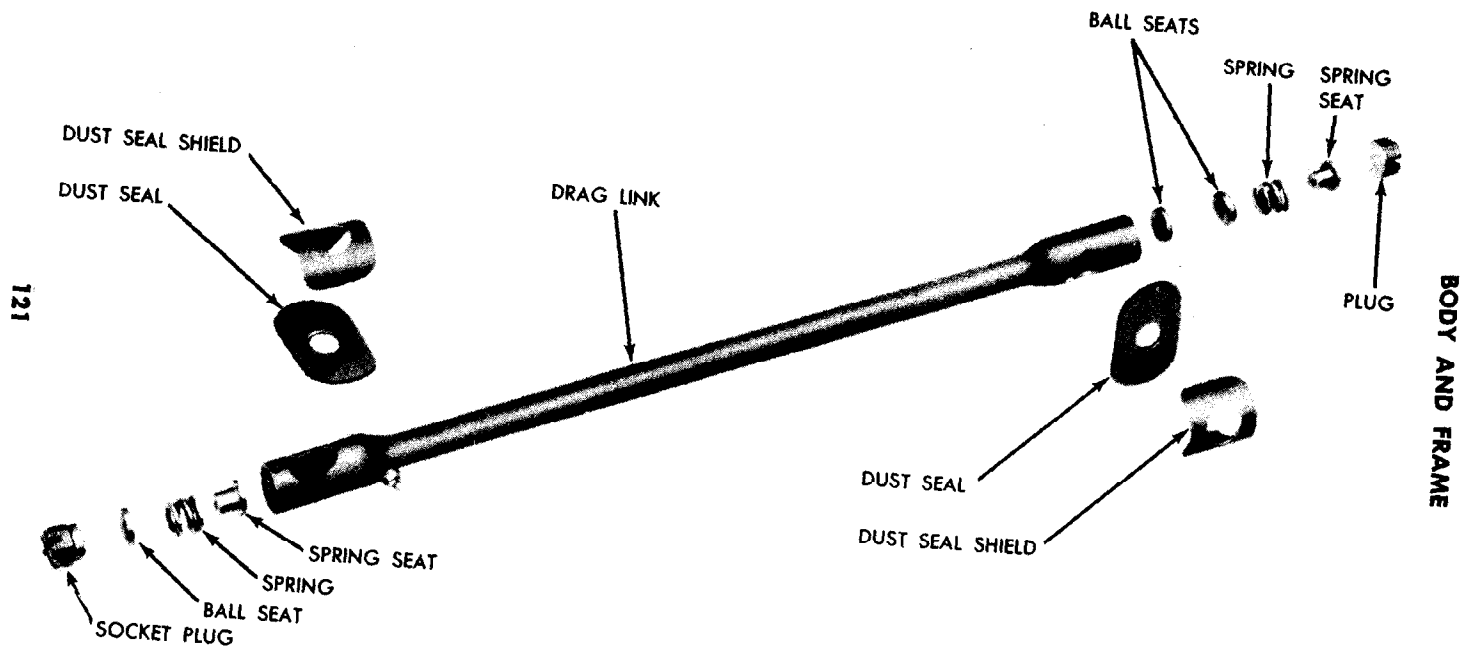

Figure 99 — Drag Link — Exploded View
(3) **CONNECT DRAG LINK** (fig. 104). With the front wheels in a straight ahead position, connect the drag link to the Pitman arm, making sure the ball socket on the Pitman arm is between the socket and ball seat (fig. 99). Tighten the socket plug and install the cotter pin. Tighten the three steering gear hold-down bolts at the frame.
d. **Assembly (fig. 99).** Place a spring seat, spring and ball seat in the front end of the drag link. Screw the socket plug approximately three or four turns in the front end of the drag link. Place two ball seats, spring and spring seat in the rear end of the drag link. Screw the socket plug approximately three or four turns in the drag link.
e. **Installation (fig. 99).** Hold a new dust seal and a dust seal shield in place on the rear end of the drag link. Place the drag link on the Pitman arm, making sure the ball joint on the Pitman arm is seated between the spring seat and socket plug. Screw the socket plug in firmly against the ball, then back the plug off one full turn and install a cotter pin. Hold a new dust seal and dust seal shield in place on the front end of the drag link. Place the drag link on the intermediate steering arm, making sure the ball joint is seated between the spring seat and socket plug (fig. 99). Screw the adjusting plug in firmly against the ball and back off the socket plug one-half turn and install a cotter pin.